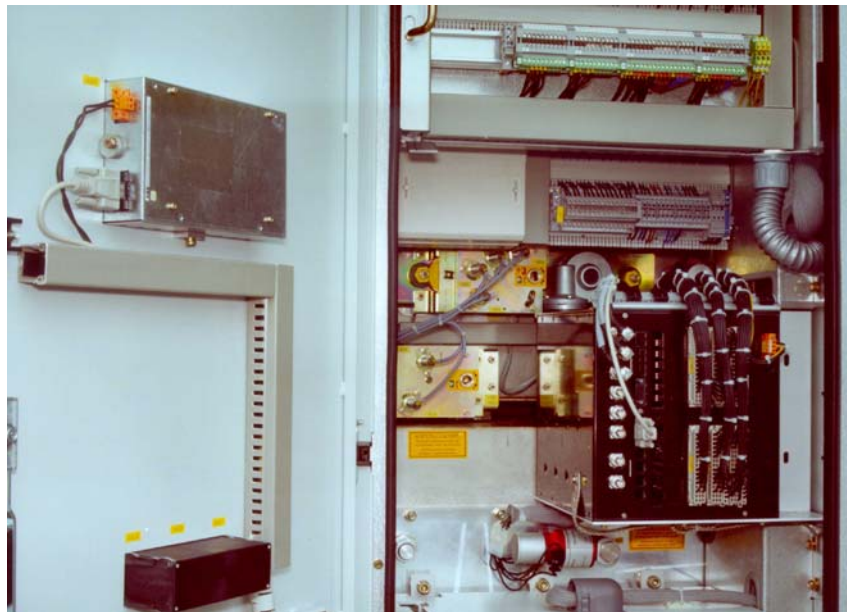

Figure 4: Mounting of the Central Unit in the LV compartment and the HMI on the door
The HMI Control Unit is a stand-alone unit with its own power supply. It can be installed on the **L**ow **V**oltage (LV) compartment door or in a dedicated compartment close to the Central Unit. The HMI is normally used to set the protection parameters and to locally operate the switching devices in the switchbay. The HMI is connected to the Central Unit by a shielded, isolated twisted pair according to the RS485 interface. Figure 4 shows an installation of the Central Unit and the HMI Control Unit in the LV compartment of a switchboard for the switchbay.